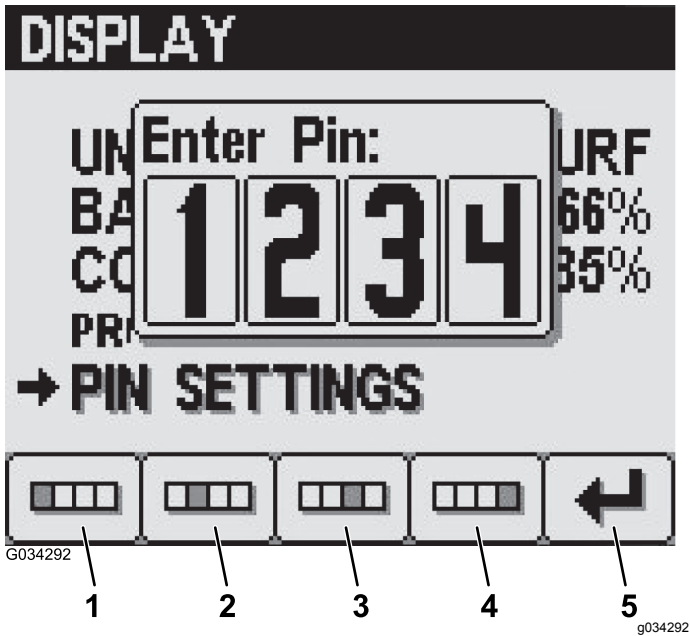

Figure 30
2. Enter your 4 digit PIN using buttons 1 to 4, and press button 5 to enter the PIN into the InfoCenter (Figure 30).
4. In the Enter Old PIN screen, enter your old PIN using buttons 1 to 4, and press button 5 to enter the PIN into the InfoCenter (Figure 30).